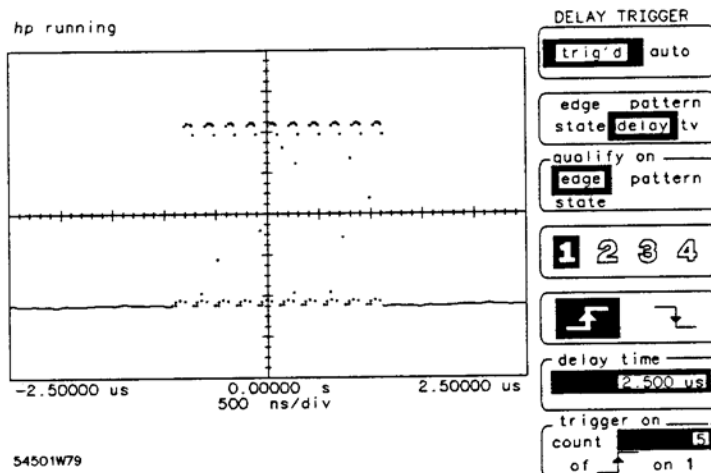

Figure 6-15. Ten Burst Pulse Triggered on Pulse 5
- Return to the trigger menu and set **trigger on count** to 5. This tells the oscilloscope to trigger on the 5th rising edge of the burst (see Figure 6-15).